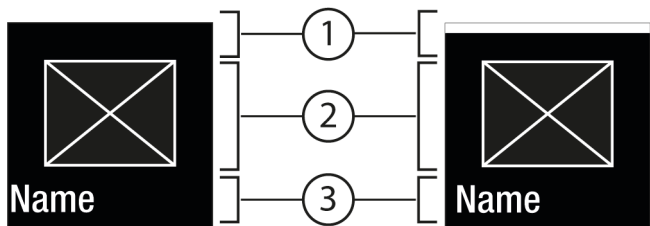
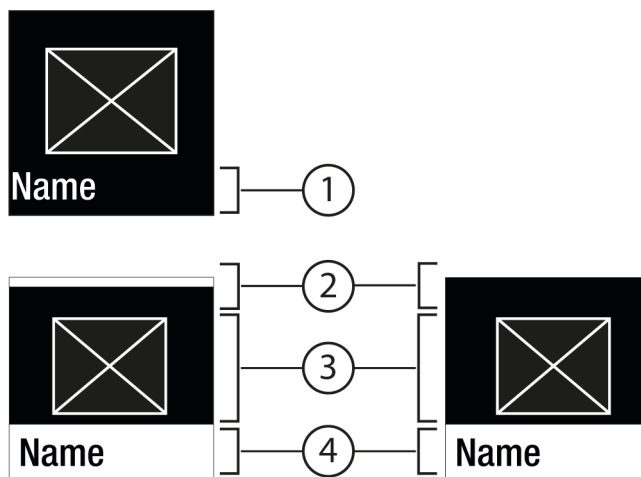

Fig. 6
Fig. 7
- Press Confirm Fig. 5 (2) to open the submenu Fig. 7 (4).
- Set a new value: Press Confirm Fig. 5 (2) to select an active value Fig. 6 (1).
- Back to the menu: Press Confirm Fig. 5 (2) to select the active value Fig. 6 (2).
- ▷ Status: On *Fig. 6 (1)* appears briefly in the submenu *Fig. 7 (4)*.